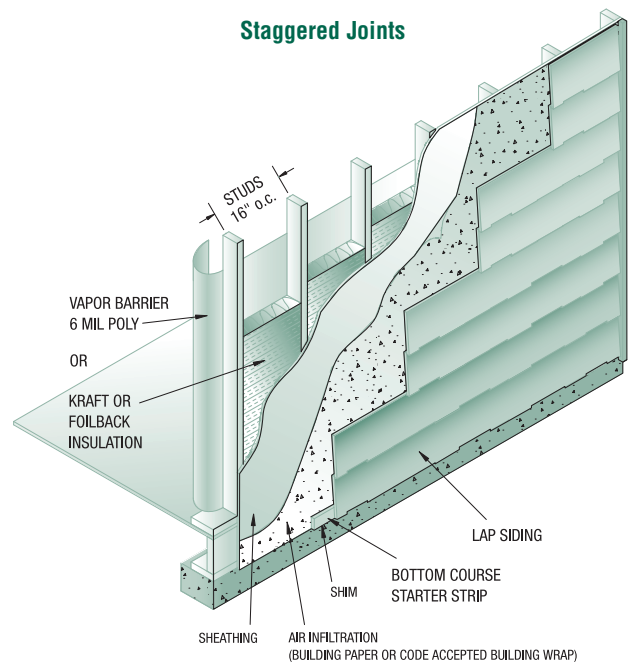

FIG. 6
- Starter strip should be 4-5" wide, 1/2" thick and be installed to hang below shim approximately 1". See Fig 6. (If desired, the starter strip can be cut from **Designer Shake** and the bottom half of the lap used for the top course.)